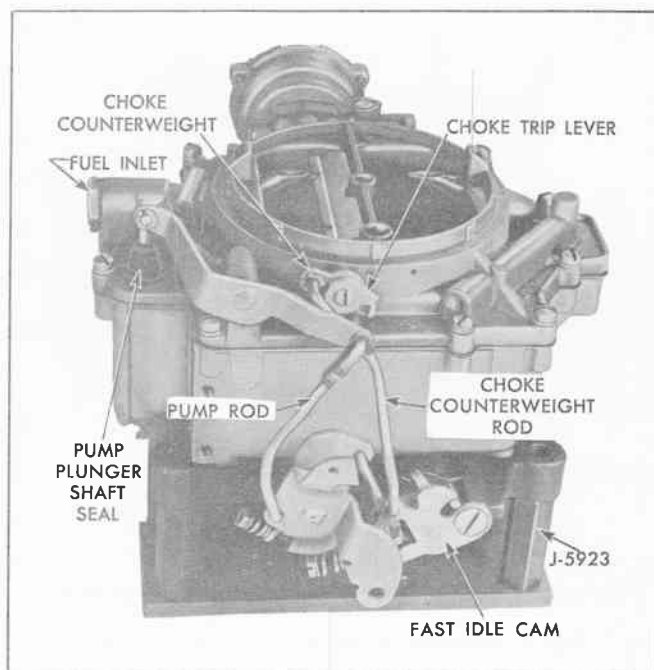

Fig. 7 Rochester 4GC 4 Jet Carburetor
1. Mount carburetor on holding fixture J-5923. Remove gasoline inlet fitting, screen and gasket assembly (Fig. 7).
4. Remove clip from upper end of pump rod (Fig. 7). It is not necessary to remove rod at lower end.
5. Remove trip lever retaining screw at end of choke shaft and remove trip lever (Fig. 7).
6. Remove fast idle cam attaching screw and remove choke counterweight rod and fast idle cam as an assembly (Fig. 7).
15. Remove horseshoe retainer from pump plunger shaft and remove rubber seal and pump plunger assembly from air horn (Fig. 7).